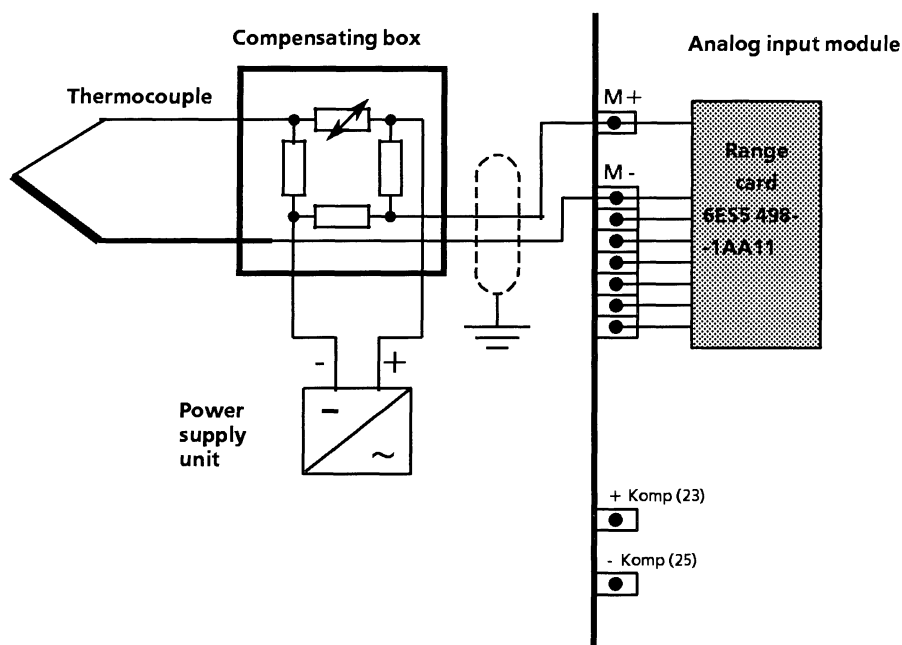

Figure 10.5 Connecting a Compensating Box to the Input of an Analog Input Module
- Run the remaining terminal leads from compensating box and thermocouple to the analog module (terminal M+ and M- see Figure 10-5).